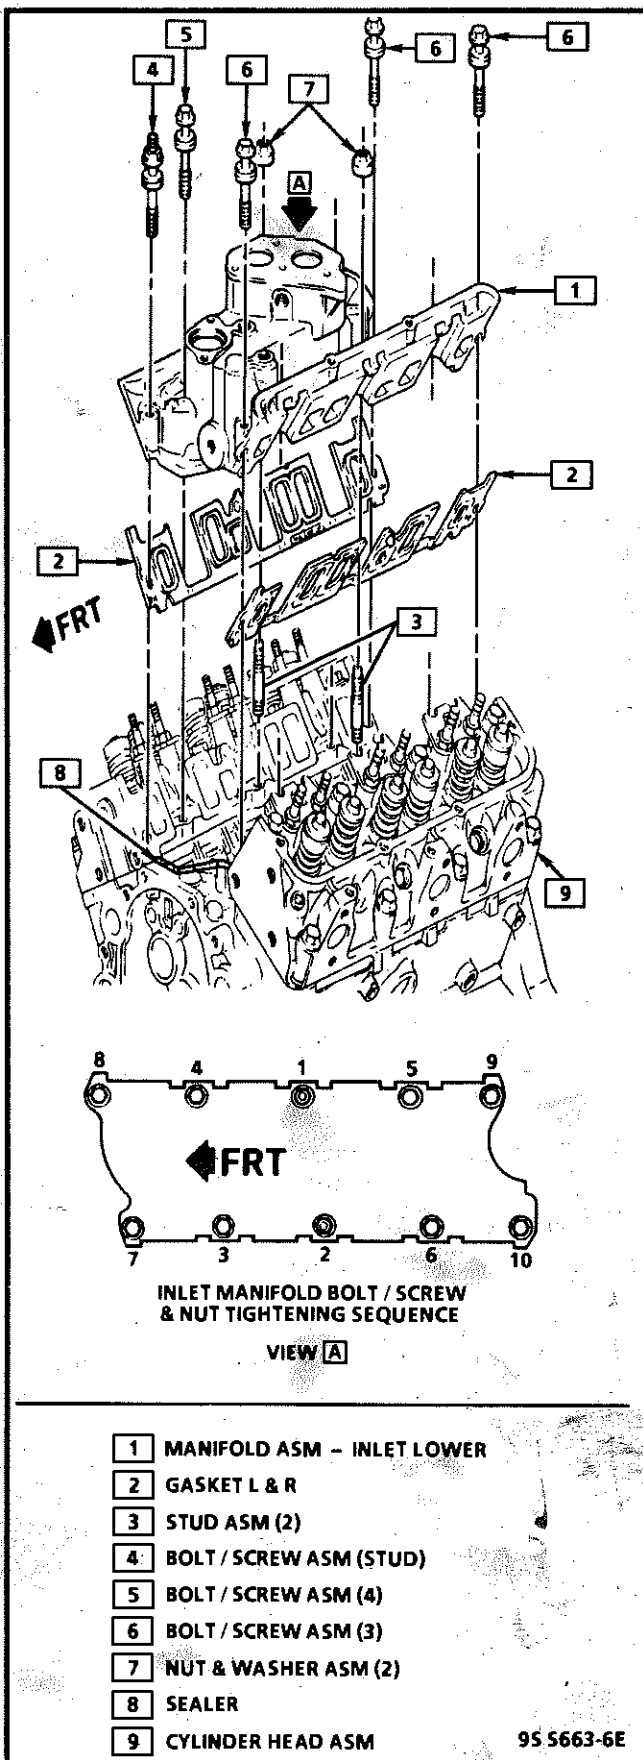

Figure 10 - Intake Manifold Installation
### Remove or Disconnect (Figure 10)
### Install or Connect (Figure 10)
1. RTV to the front and rear sealing surfaces on the block (Figure 10). Apply a 5 mm (0.197") bead of RTV to the front and rear of the block as shown.
- Nuts and bolts to 31 N·m (23 lb. ft.) in the sequence shown in Figure 10. Then re-torque using the same sequence.